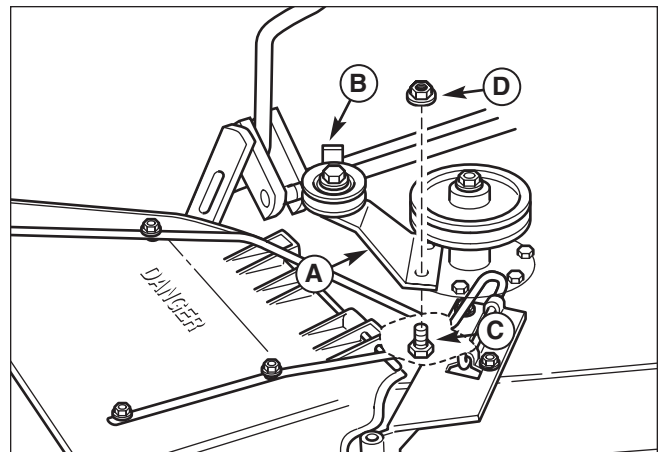
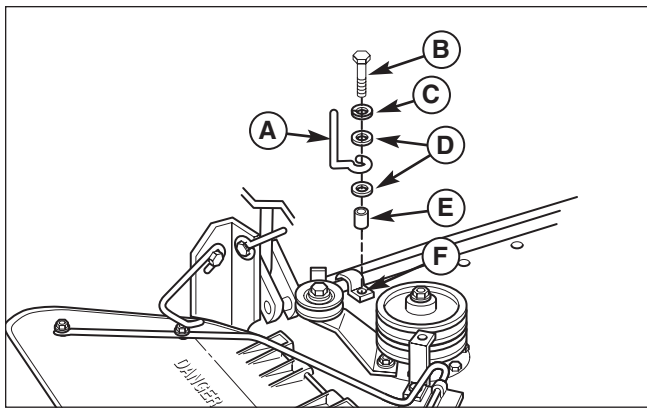

Figure 9. Install Idler Assembly
Figure 10. Install Wire Belt Guide 44" & 50" Mower Deck
3. Install 5/16-18 x 7/8 capscrews (C, Figure 9) through the mower deck and arbor as shown. Tighten capscrews.
4. Install the idler assembly (A) to the mower deck using 5/16-18 x 7/8 capscrews (C) and 5/16-18 nuts. The belt guide should be positioned as shown.
5. **44" and 50" Mowers** - Remove and discard the taptite screw in existing hole (F, Figure 10) if unit has roller bars.
6. **44" and 50" Mowers** - Install wire belt guide (A, Figure 10), spacer (E) washers (D), washer (C) and capscrew (B) as shown.